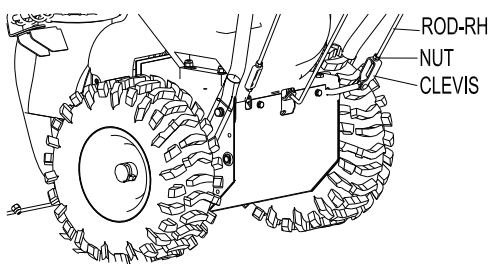

FIG 5
- 2.4.1** Place rod through slot on the RH side of the upper handle and thread it into the clevis that is located on the right hand side of engine deck. (FIG 5)